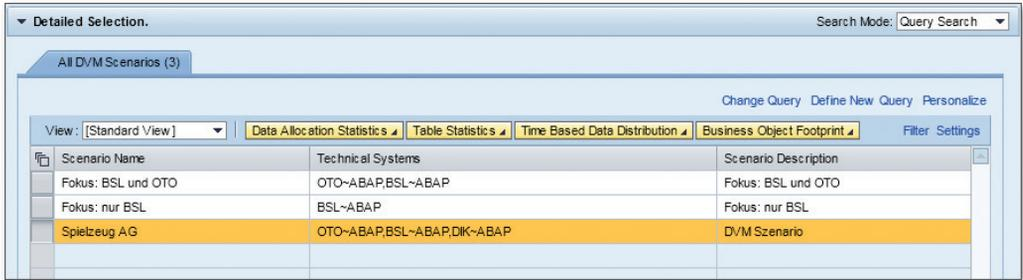

Figure 9.24 Scenario Selection in the Detailed Selection Area
This is generally started via the DETAILED SELECTION area (see Figure 9.24).
Based on this selection, available scenarios are displayed in the DETAILED SELECTION area (see Figure 9.24). Select an appropriate scenario. Check whether all your target systems are mentioned in the selected scenario (see Section 9.3.1). Make sure that the relevant line is marked before you continue.
3. Use the buttons above the table to perform the actual queries. All four options in Figure 9.24 were already described in the previous sections. For example, click the DATA ALLOCATION STATISTICS button. Decide how to open the next window. For each new query, you always need to decide whether the dashboards are to be displayed in the current window, i.e., imbedded in the work center, or in a new web browser window. This method should already be known from the other work centers.